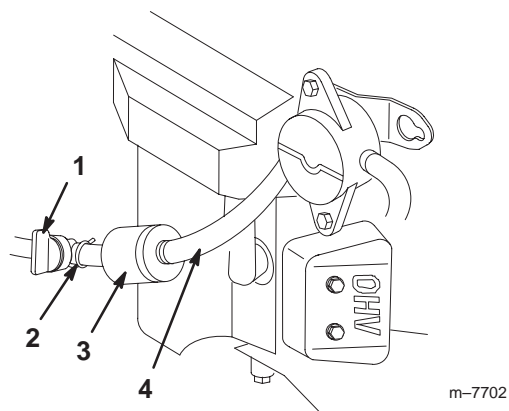

Figure 36
5. Close the fuel shutoff valve (Fig. 36).
6. Squeeze the ends of the hose clamps together and slide them away from the filter (Fig. 36).
8. Install a new filter and move the hose clamps close to the filter (Fig. 36).
3. Close the fuel shutoff valve (Fig. 36).
4. Loosen the hose clamp at the fuel filter and slide it up the fuel line away from the fuel filter (Fig. 36).
5. Disconnect the fuel line from the fuel filter (Fig. 36).
Note: Allow gasoline to drain into a fuel container can or drain pan (Fig. 36).
7. Install the fuel line onto the fuel filter. Slide the hose clamp close to the fuel filter to secure the fuel line (Fig. 36).